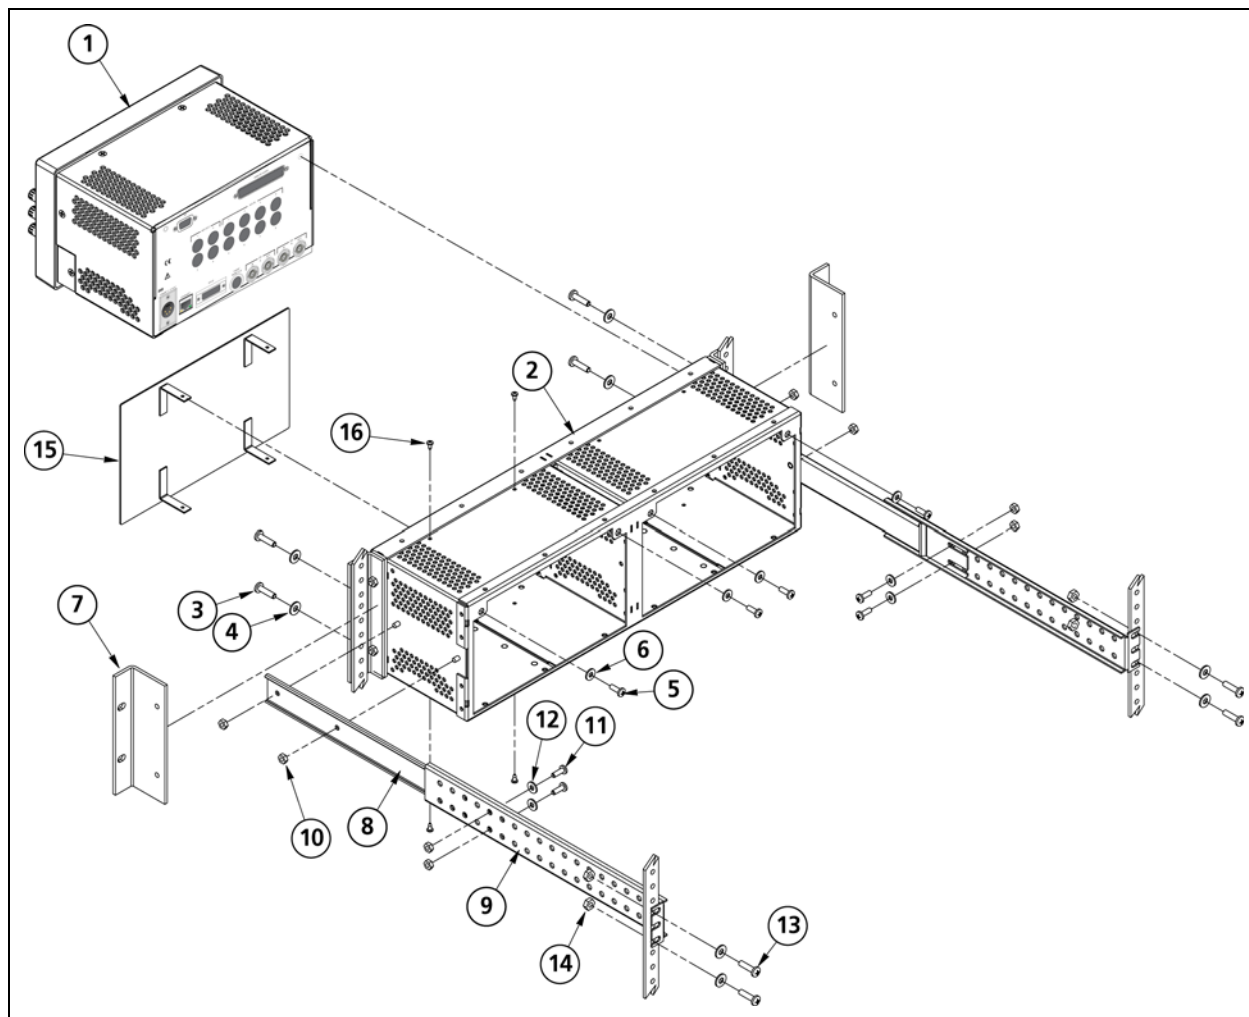
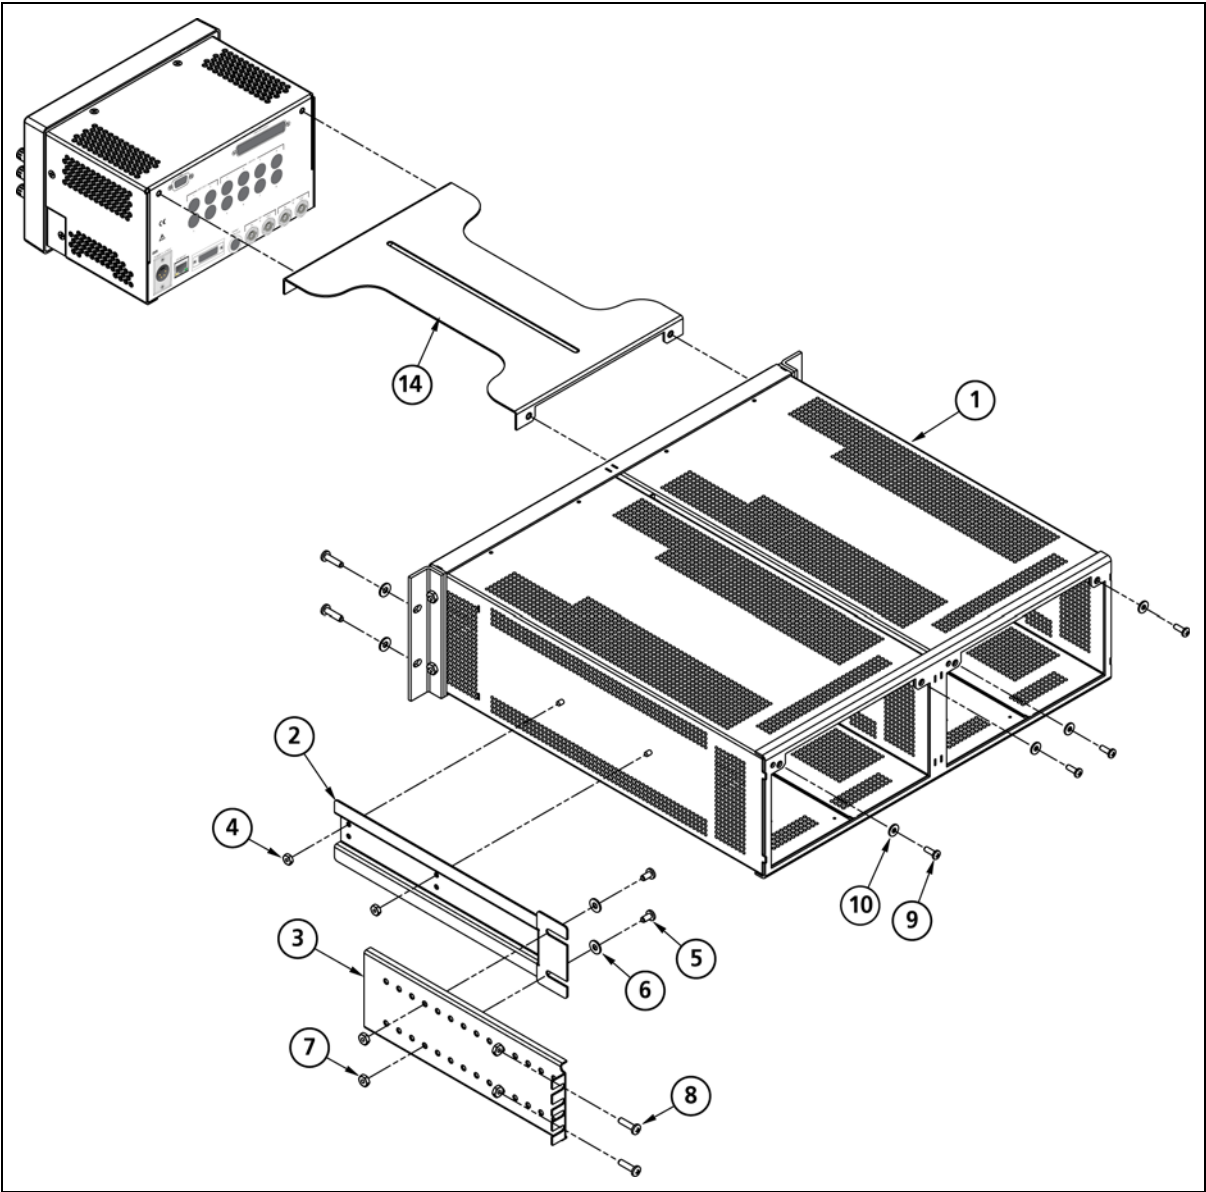

Figure 2-1 Mounting the CMN-LA in a Rack Using the DRC-3
Figure 2-2 Mounting the CMN-LA in a Rack Using the DRC-2A
Rack mounting the CMN-LA is illustrated in Figure 2-1 for the DRC-3 rack mount case, and in Figure 2-2 for the DRC-2A double rack mount case (for installing one or two CMN-LA units). Table 2-1 lists the parts required to rack mount the CMN-LA into the DRC-3 rack mount case and Table 2-2 lists the parts required to rack mount the CMN-LA into the DRC-2A double rack mount case.
- Install the extension bracket mounts (ITEM 8) to both sides of the DRC-3 chassis (ITEM 2) using 4 nuts (ITEM 10), as shown in **Figure 2-1**.
- Install the assembled CMN-LA unit (ITEM 1) in the DRC-3 chassis (ITEM 2) using screws (ITEM 3) and washers (ITEM 4) through the chassis front mounting ears, as shown in **Figure 2-1**.
- 1 If the optional bracket kit is being used, install the bracket (ITEM 14) to the rear of the CMN-LA unit, as shown in Figure 2-2.
- 3 Install the assembled unit in a rack using ¾-in. Phillips head screws (ITEM 8) and lock washers (ITEM 11), as shown in Figure 2-2.